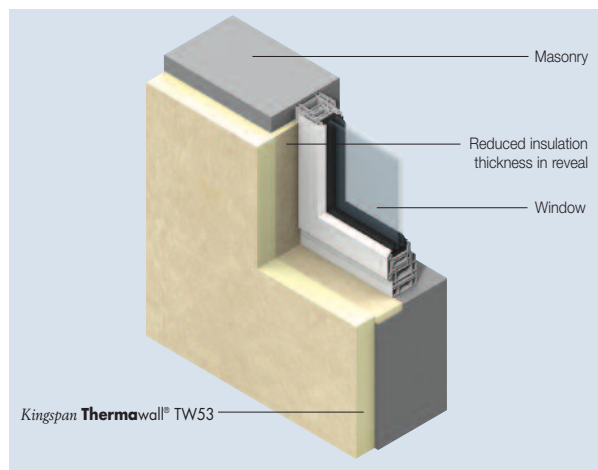

Figure 7
Reveals should be designed to accommodate the 20 mm of Kingspan ThermaWall® TW53 required to achieve an R-value of 0.6 m²·K/W, and the depth of the cladding system (see Figure 7).
- Care should be taken to install the specified thickness of insulation around reveals (see Figure 7).